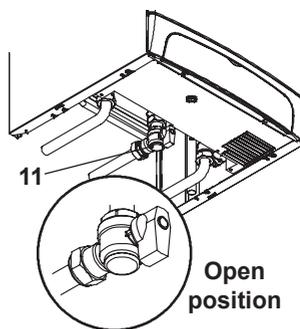

Fig. 8.11
- Open the gas cock (11 in Fig. 8.11)